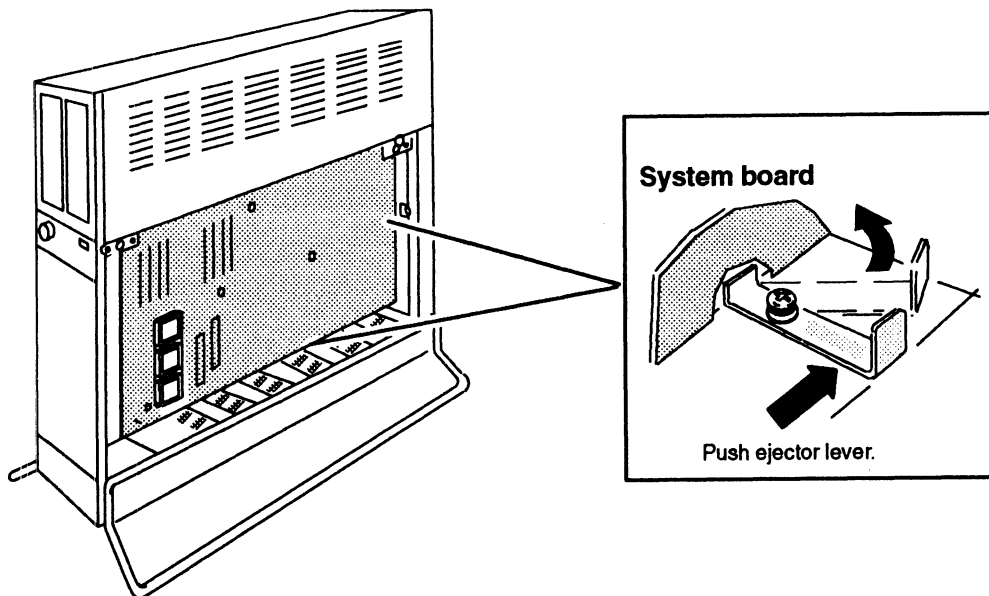

Figure 9-5 Releasing the System Board from the VME Backplane
7. Push the two ejector levers to the right as shown in Figure 9-5 to disconnect the system board from the VME connectors behind it.